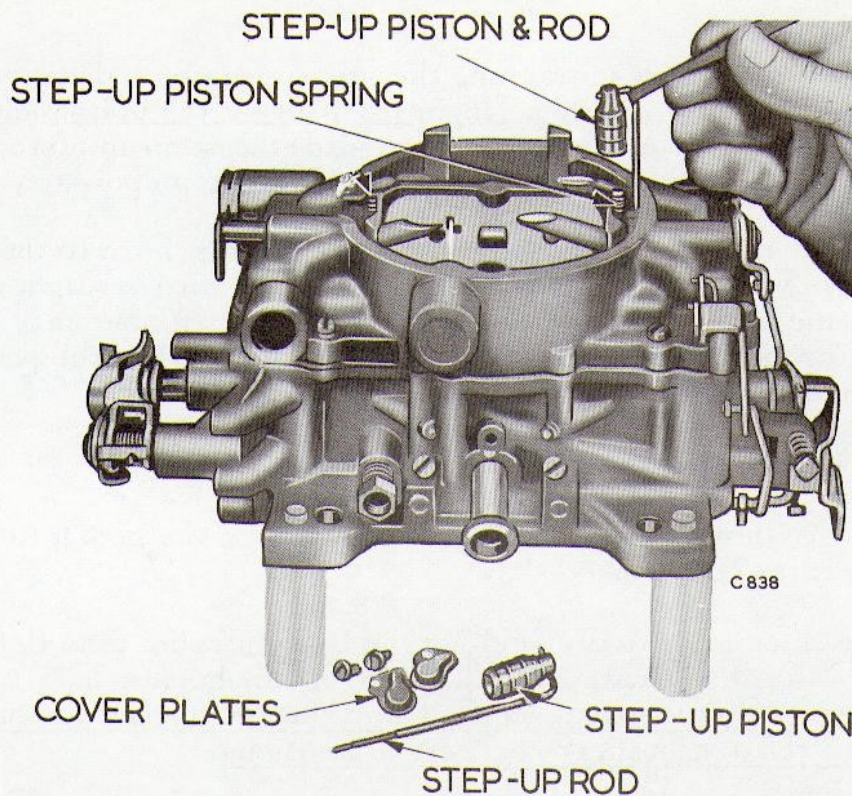

Fig. 9 Removing or Installing Step-Up Pistons and Rods
- (1) Place the carburettor assembly on Tool No.T.109-287S elevating legs to protect the throttle valves from damage and to provide a suitable base for working.
- (2) Remove the hairpin clip that attaches the fast idle connector rod to the choke lever. Disengage the rod from the lever, then swing the rod at an arc until it can be disengaged from the fast idle cam.
- (3) Remove the retainer and spring that holds the throttle connector rod in the centre hole of the accelerator pump arm. Remove the hair pin clip that attaches the lower end of the rod in the primary throttle shaft lever. Disengage the rod from the arm and lever, then remove from the carburettor.
- (4) Remove the screws attaching the step-up piston and rod cover plates. Hold cover down with a finger to prevent the piston and rods from flying out. Lift off the plates and slide the step-up pistons out of the air horn, as shown in Fig.9. Remove the step up piston springs.
- (5) Remove the ten screws that attach the air horn to the main body. (1 screw in hole in air horn). Lift air horn straight up and away from the main body. When removing air horn, use care as as not to bend or damage the floats. Remove the accelerator pump, plunger lower spring from the pump cylinder.